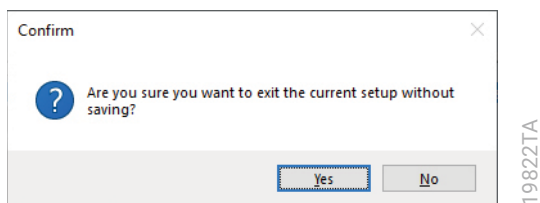

Figure 203. Confirmation to exit setup without saving.
- Save each Assay before editing a different Assay. If you attempt to edit a new Assay without saving your existing changes, the following message will appear (Figure 203).